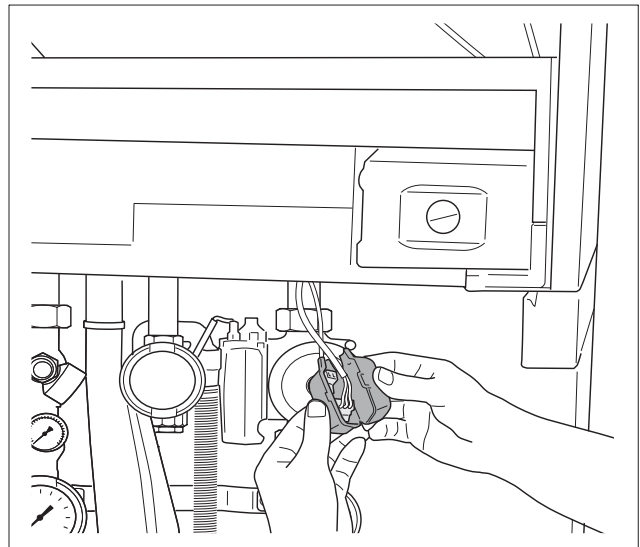
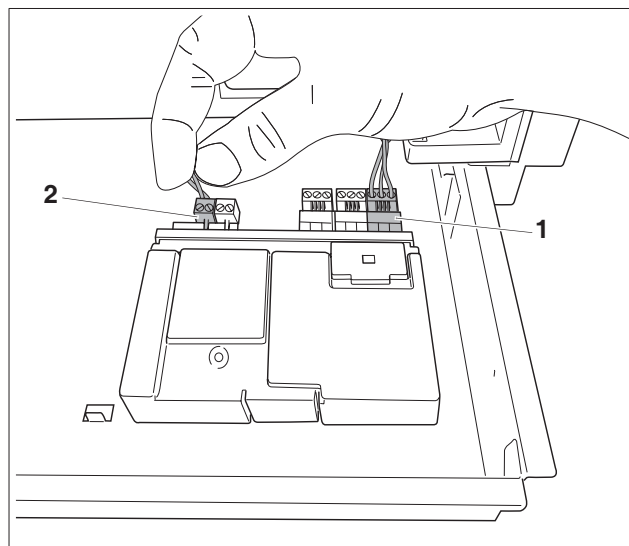

fig. 61 Removing the covers
fig. 62 Interconnecting modules
- Remove the covers of both free connectors on the function module connection cables (fig. 61).
- Connect the free 230VAC mains cable (fig. 61) to the module (fig. 62, **item 1**). If more modules are used, the 230 VAC supply for the second module can be taken from the first module using the cable enclosed with the module.
- Connect the free connector of the EMS bus connecting cable (fig. 62) to the first module (fig. 62, **item 2**).